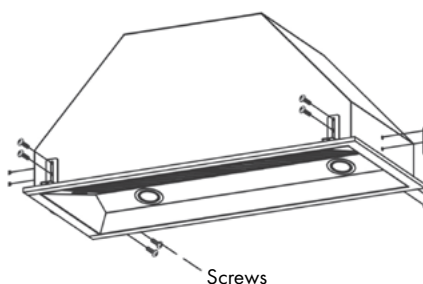

Figure 2
3. Lift the range hood insert into cabinet or custom hood structure. *Figure 2*